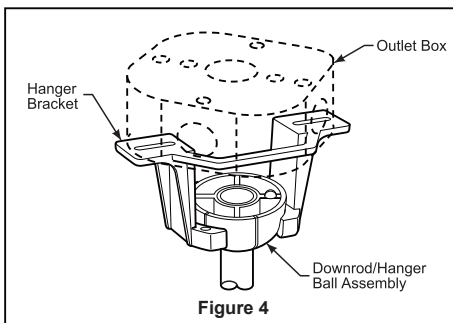

Figure 4
4. Loosen the two set screws and locking nuts in the downrod support of the motor assembly. Route the black/white, blue, red, gray, yellow wires through the downrod. (Figure 4)
2. Carefully lift the fan and seat the downrod/hanger ball assembly onto the hanger bracket that was just attached to the outlet box. Be sure the groove in the ball is lined up with tab on the hanger bracket. (Figure 4) This fan is intended for standard and angled mounting options only. Closemount and flushmount options are not available. For angled ceilings, note the angle can be no more than 19°.
3. Connect wires using connectors as shown in Figure 4.
- 4. **If installing the light kit, skip this step.** Assemble the light kit wire cover to the light kit using the two key slots. Replace the removed screw and secure all three screws. (Figure 4)
4. To make fan operational, install two 3V batteries (included) in hand-held remote transmitter, with fan power off. Then, follow the remote code setting process. If not used for long periods of time, remove battery to prevent damage to transmitter. Store the remote away from excessive heat or humidity. (Figure 4)